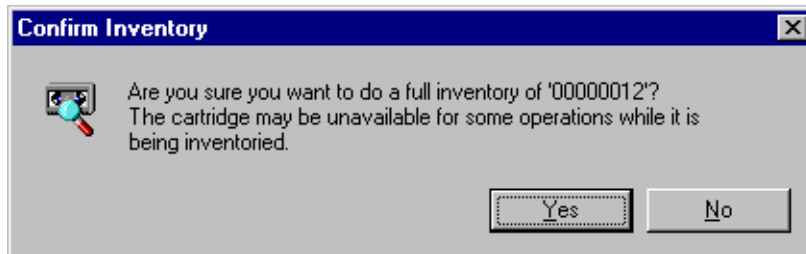

Figure 39. Confirm Inventory dialog box
2. Choose **Inventory** either from the **File** menu or from the shortcut menu with a right-click. Since the inventory takes several minutes to complete, you are asked to confirm the operation, as shown in Figure 39.